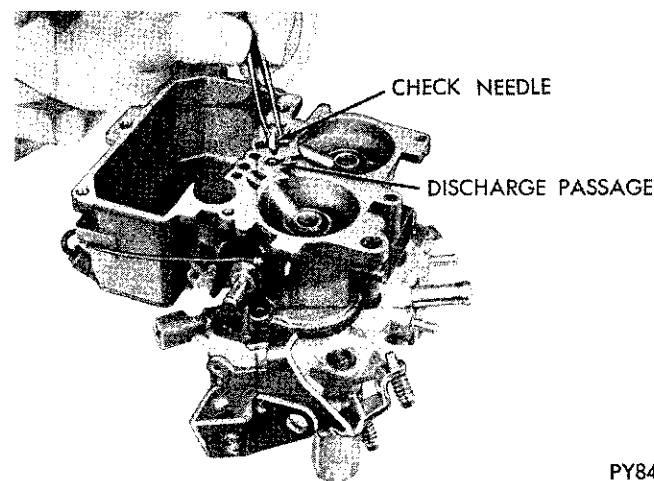
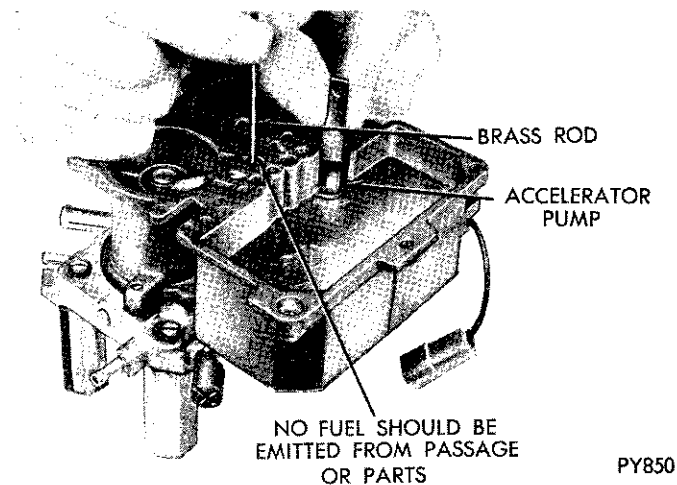

Fig. 15—Installing Accelerator Pump Discharge Check Needle
Fig. 16—Testing Accelerator Pump Discharge Check Needle
sage (Fig. 15).
(1) Invert main body and place a new gasket in position. Place throttle body on main body and align. Install attaching screws and tighten securely.
(2) Install accelerator pump discharge check needle in discharge passage (Fig. 15). Check accelerator pump, fuel inlet and discharge systems as follows:
(3) Pour clean gasoline into fuel bowl, approximately 1 inch deep. Slide accelerator pump plunger into cylinder. Raise plunger and press down lightly on plunger stem to expell all air from pump passage.
(4) Using a small clean brass rod, hold discharge check needle down on its seat. Again raise plunger and press downward. No fuel should be emitted from pump discharge passage (Fig. 16).
(8) Install accelerator pump discharge check needle in pump discharge passage (Fig. 15).